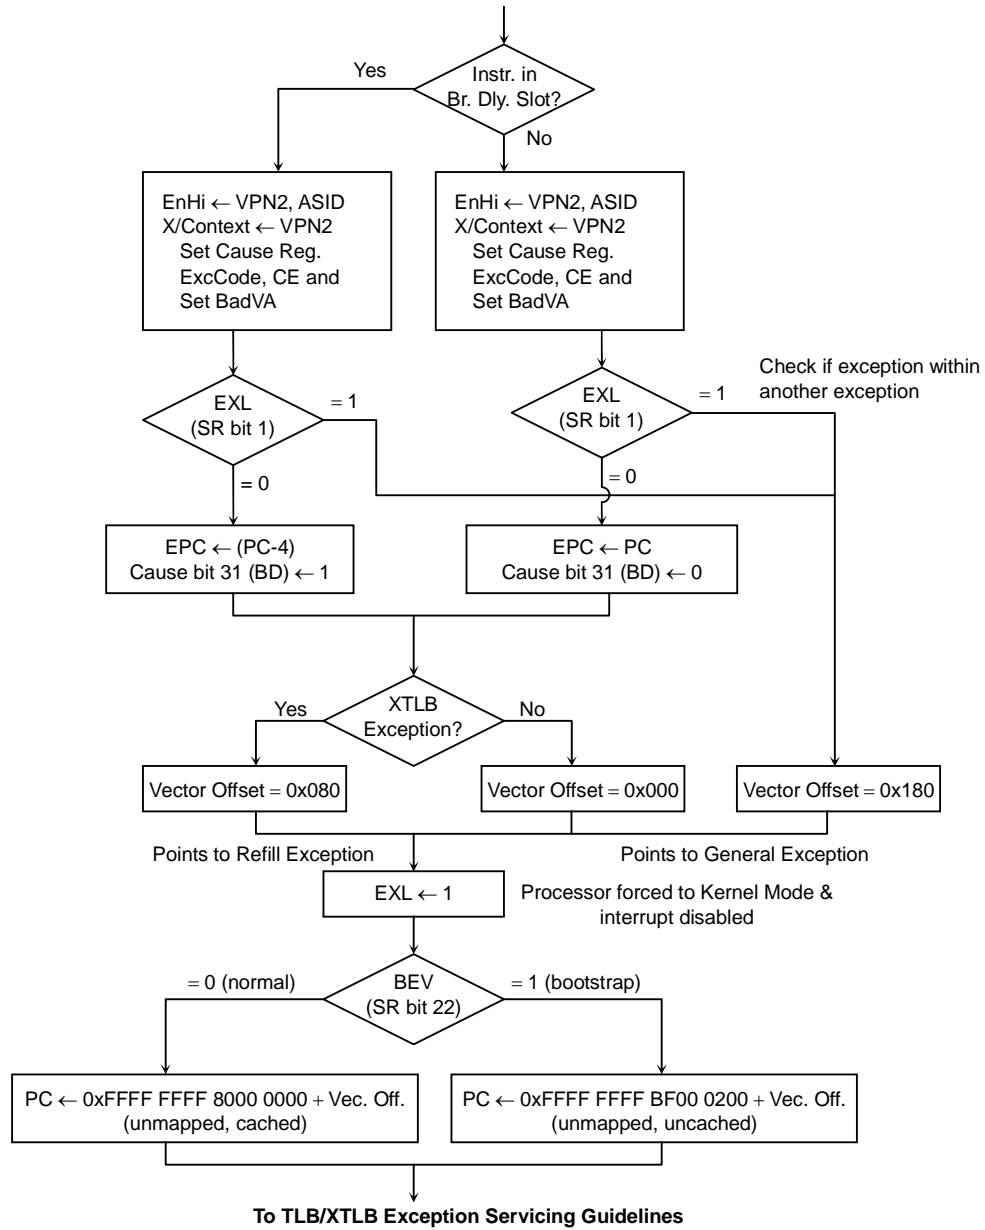

Figure 8.20.3 TLB/XTLB Miss Exception Handler (HW)
- Figure 8.20.3 shows TLB/XTLB miss exception handler (HW)